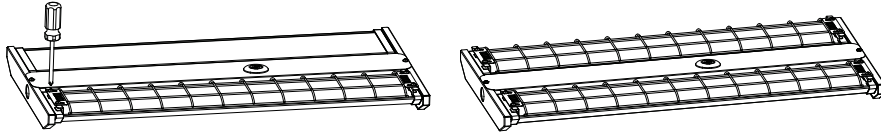

Figure 8
Step1. Clamp the iron pieces on both ends of the wire guard into the plug of the light-emitting modules, push them to the end, and tighten them with screws. (Figure 8)